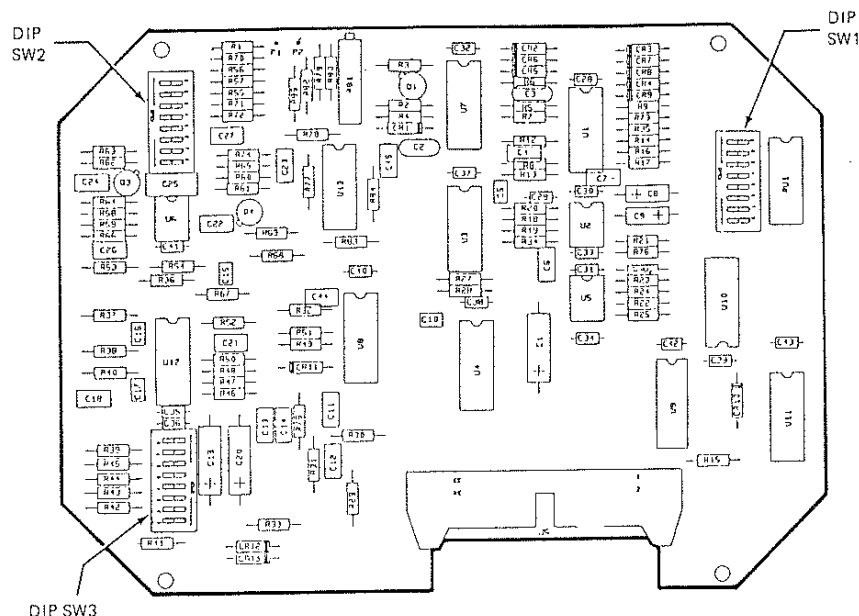

Figure 13. Signal Conditioning PWA
8. Refer to Figure 13 for location of DIP switches 1, 2, and 3. Each DIP switch has eight small, 2-position switches. The switch positions are open (0) or closed (1). Refer also to Figure 12.